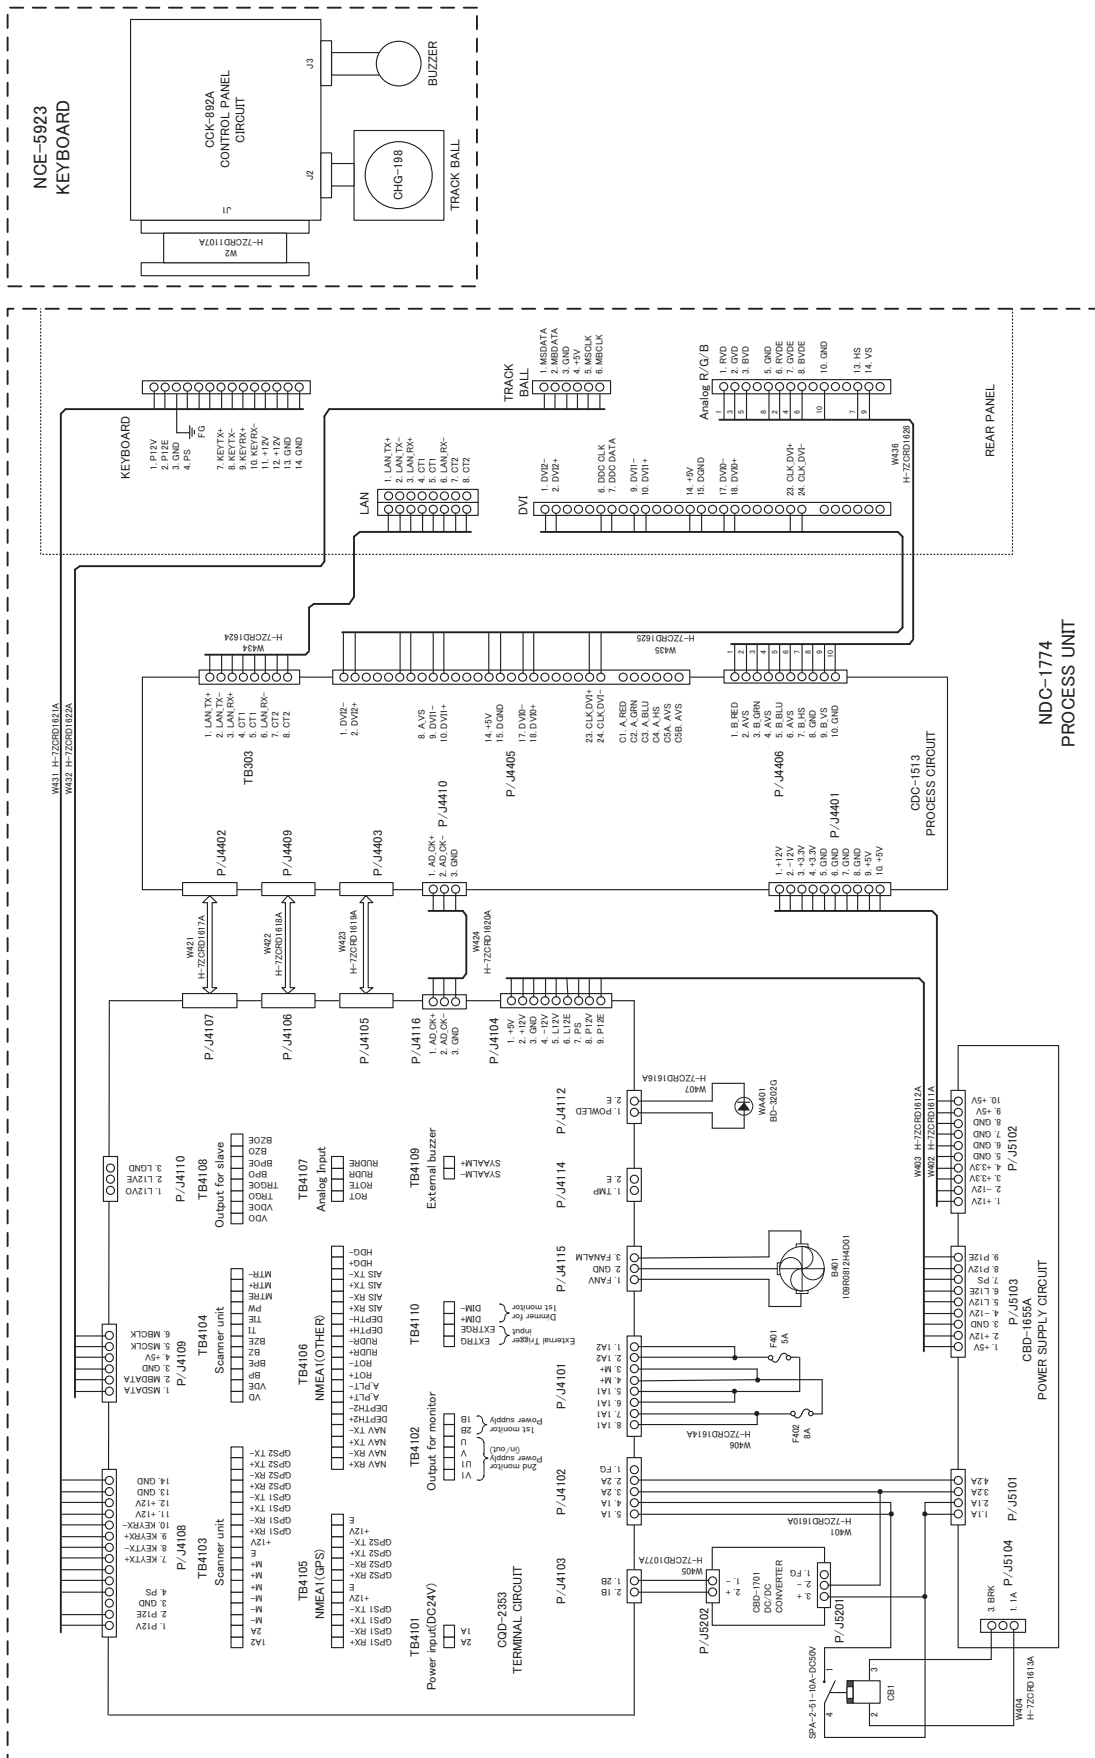

Fig.5 Internal Connection Diagram of Control Unit NCM-994
- Fig.5 Internal Connection Diagram of Control Unit NCM-994